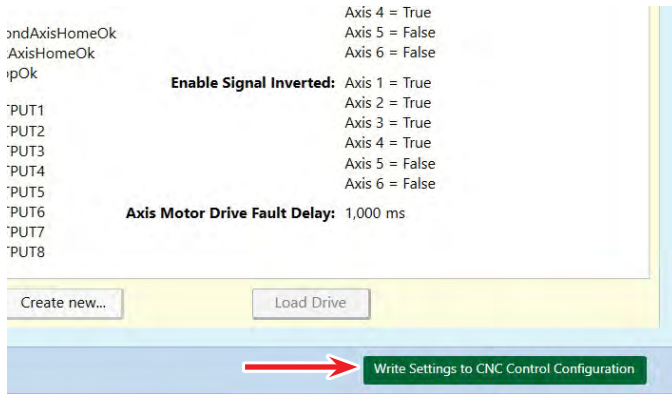

FIGURE 16
20. When all of the settings have been checked, click on the “Axis Drive Type page. Then click on “Write Settings to CNC Control Configuration” (see Figure 16).